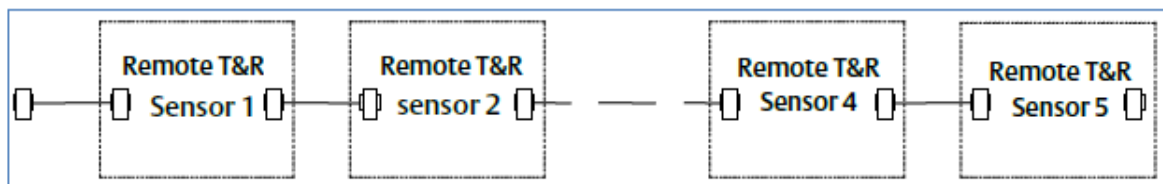

Figure 2-31 Chain connection of sensors in a series
- Figure 2-31 shows multiple sensors connected in a series: